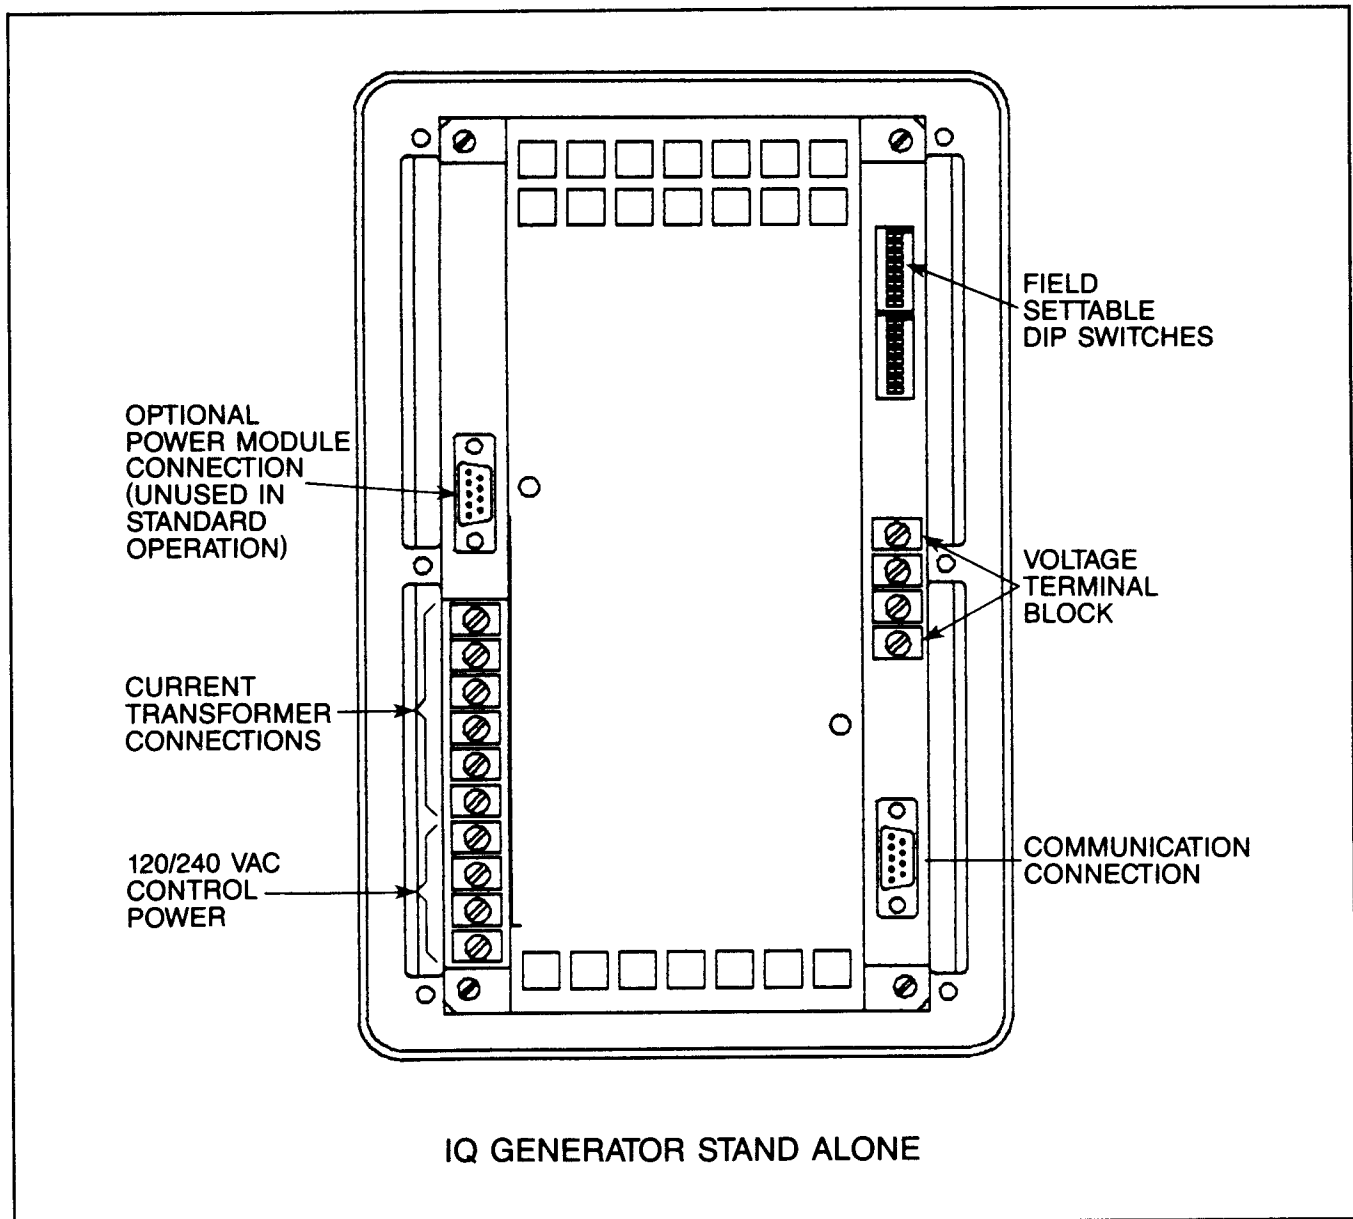
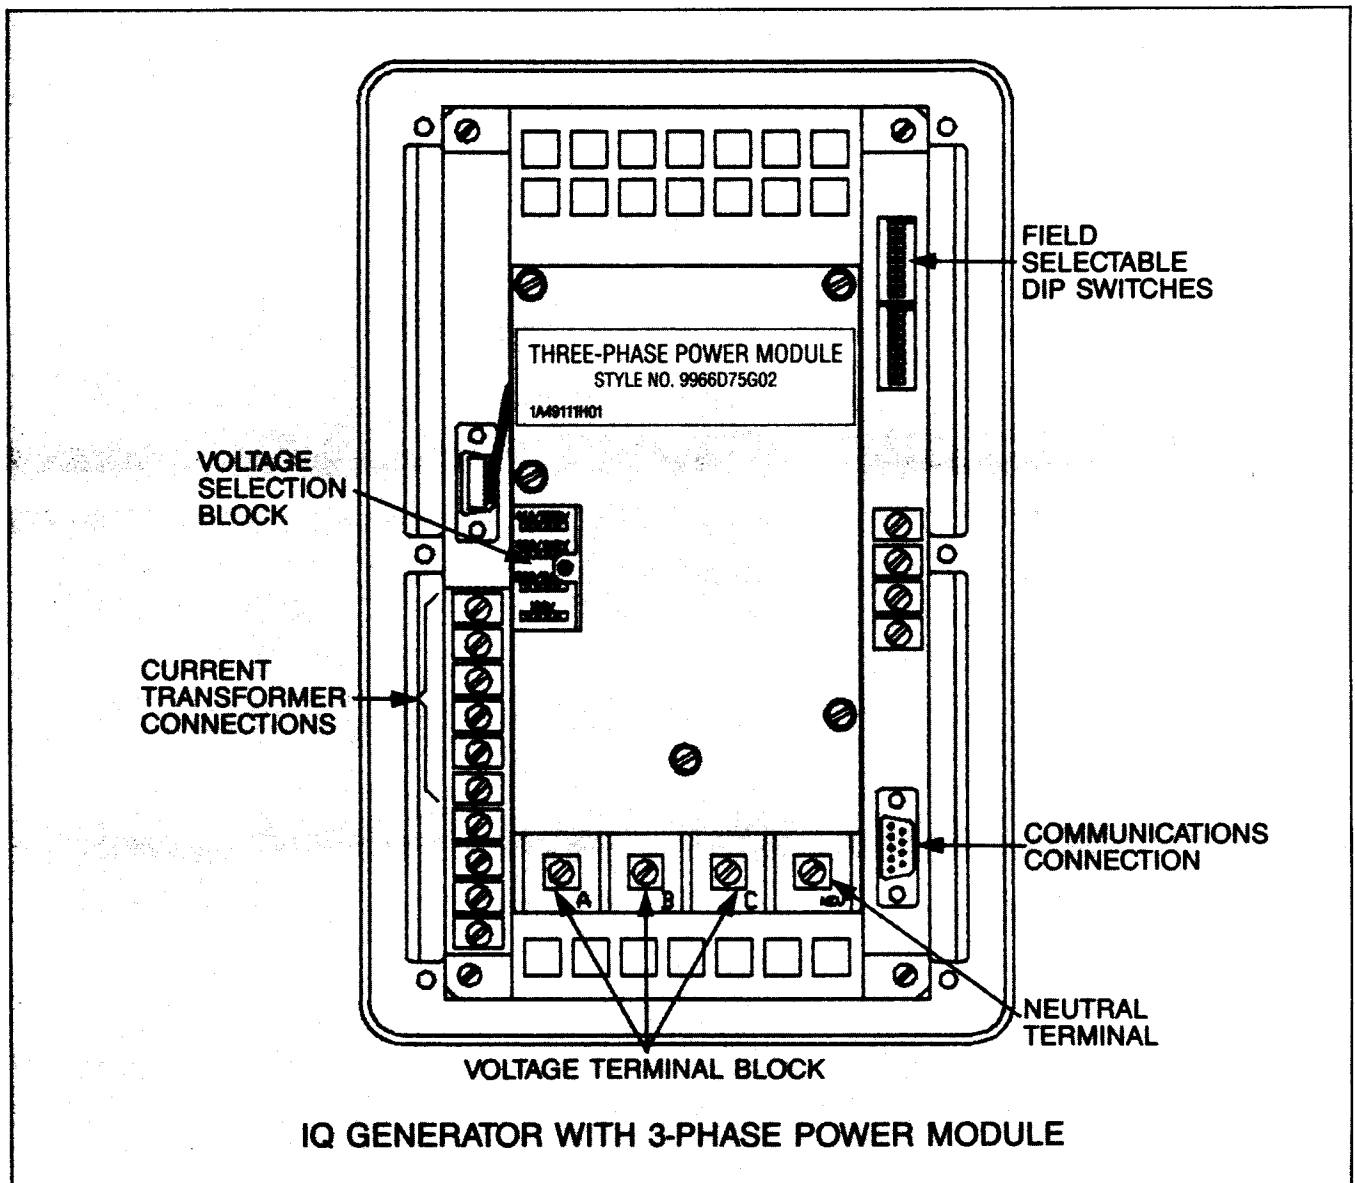

Figure 2.1A — Rear Access Area
Figure 2.1B — IQ Generator with 3-Phase Power Module
The standard unit requires 120/240 VAC control power to operate. See Figure 2.1A (page 6). The unit mounted with the three-phase Power Module draws its power from the line it is monitoring.
When using the IQ Generator without the 3-phase Power Module, study Figure 2.1A and note the following items:
When using the 3-phase Power Module, study Figure 2.1B and notice the differences between it and Figure 2.1A. The following are differences and additions to the 6 items above.
4.1.4 Voltage Selector Jumper — It is necessary to match the placement of the Voltage Selector Jumper with the incoming AC line voltage, measured line-to-line. (See Figure 2.1B.)